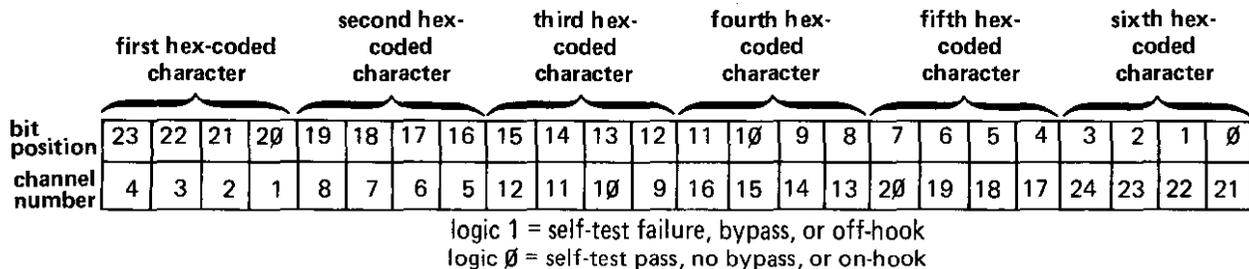

figure 12. Bit map for self-test status (*T*), bypass status (*E*), and T1 signaling status (*J*) commands
5.08 The *self-test result* command (*T* character) provides a means of determining whether a channel passes self-testing. When the *T* command is entered with a channel specified, the 251 System first returns the System unit number and channel number (using the protocol described in paragraph 5.03). The 251 System then returns a *P* character if the channel passes self-testing or an *F* character if the channel fails self-testing. If the *T* command is entered with channel 00 specified, the 251 System returns, instead of a single *P* or *F* character, six hex-coded characters that contain the self-test status for all channels. To interpret this information, take the first character as a hex digit, convert it to binary, and map it into the first character position in the bit map in figure 12. Then, using the appropriate character positions, repeat this for the remaining five characters. The correspondence between bit position and channel number is shown in the figure. A logic 1 indicates a self-test failure; a logic 0 indicates a self-test pass.
5.09 The *bypass status* command (*E* character) provides a means of determining whether channels are effectively bypassed. When the *E* command is entered (channel number 00 must be specified), the 251 System first returns the System unit number and channel number (using the protocol described in paragraph 5.03). The 251 System then returns six hex-coded characters that contain the bypass status for all channels. To interpret this information, take the first character as a hex digit, convert it to binary, and map it into the first character position in the bit map in figure 12. Then, using the appropriate character positions, repeat this for the remaining five characters. The correspondence between bit position and channel number is shown in the figure. A logic 1 indicates that the channel is effectively bypassed; a logic 0 indicates that it is not bypassed.
5.10 The *T1 signaling status* command (*J* character) provides a means of determining channels' on-hook/off-hook status. When the *J* command is entered (channel 00 must be specified), the 251 System first returns the System unit number and channel number (using the protocol described in paragraph 5.03). The 251 System then returns six hex-coded characters that contain the on-hook/off-hook status for **all** channels. To interpret this information, take the first character as a hex digit, convert it to binary, and map it into the first character position in the bit map in figure 12. Then, using the appropriate character positions, repeat this for the next five characters. The correspondence between bit position and channel number is shown in the figure. A logic 1 indicates that the channel is off-hook; a logic 0 indicates that it is on-hook.
**Example 3:** To obtain the bypass status for all channels of Sytem unit 4, send the following characters in the order given: *d*, 0, 0, *E*. The 251 System returns the following characters: *d*, 0, 0, *F*, 0, *A*, 5, 1, 8. The corresponding bypass bit map is 111100001010010100011000, indicating that the following channels are bypassed: 1, 2, 3, 4, 10, 12, 13, 15, 17, and 24 (refer to figure 12).